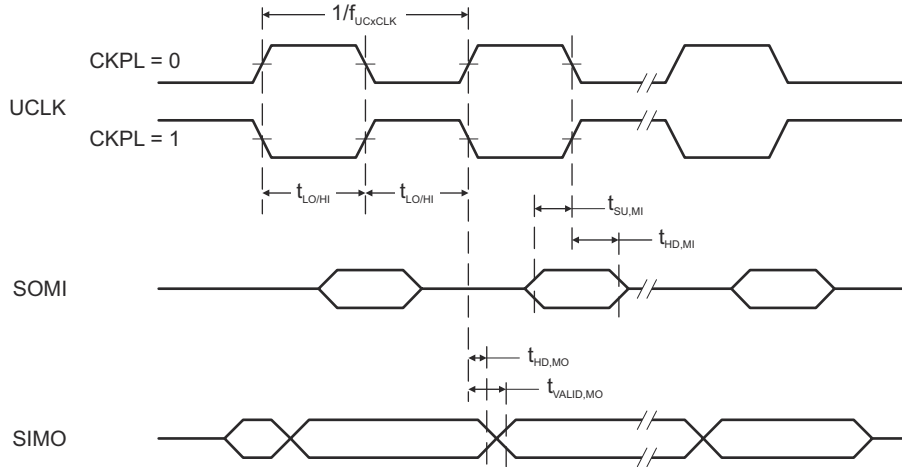
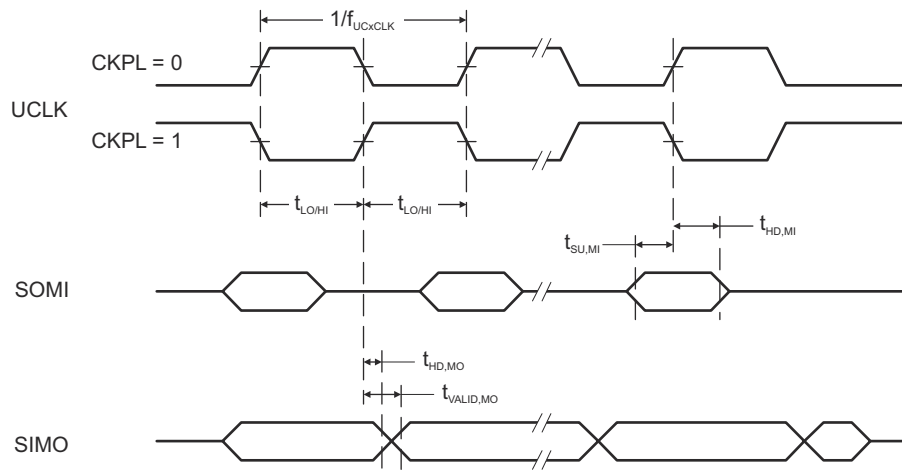

图 8-11. SPI Master Mode, CKPH = 0
图 8-12. SPI Master Mode, CKPH = 1
(see Fig 8-11 and)
(2) Specifies the time to drive the next valid data to the SIMO output after the output changing UCLK clock edge. See the timing diagrams in Fig 8-11 and Fig 8-12.
(3) Specifies how long data on the SIMO output is valid after the output changing UCLK clock edge. Negative values indicate that the data on the SIMO output can become invalid before the output changing clock edge observed on UCLK. See the timing diagrams in Fig 8-11 and Fig 8-12.